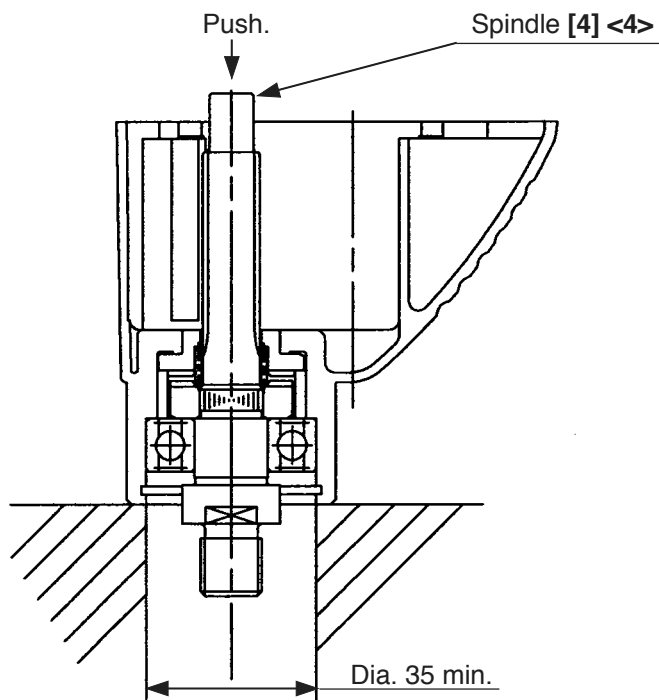

Fig. 7
Support the tip of the Gear Cover (A) Ass'y [25] <25> with a cylindrical jig of inside diameter 35 mm or more, and push the rear portion of the Spindle [4] <4> lightly. Then the spindle can be removed together with the Ball Bearing 6202DDCMPS2L [7] <7> and Spring (A) [9] <9>. (Fig. 7)